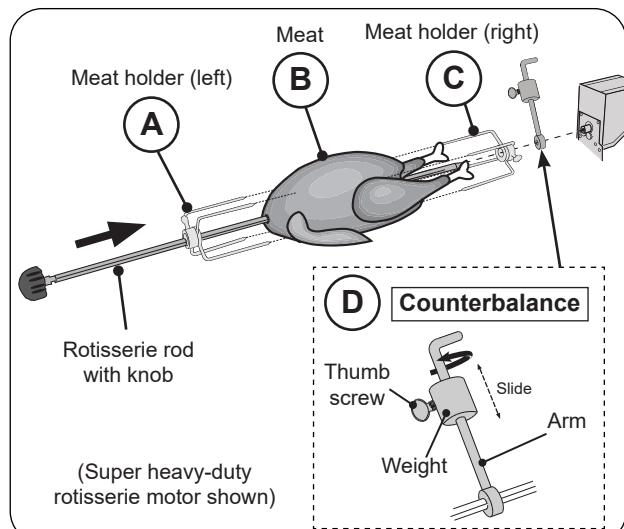

Fig. 37-3 Assemble rotisserie rod for cooking
4. Slide the left meat holder onto the rod and tighten (see Fig. 37-3, A).
5. Then slide meat onto the rod, followed by the right meat holder (see Fig. 37-3, B and C).
8. The counterbalance may then be attached to even weight distribution. Slide the counterbalance onto the rod next to the right meat holder (see Fig. 37-3, D). Loosen the arm and point it upward opposite the heavy side of the meat. Tighten the arm.
9. Slide the counterbalance weight up or down the arm until the rod rotates most evenly then tighten thumb screw (see Fig. 37-3, D).